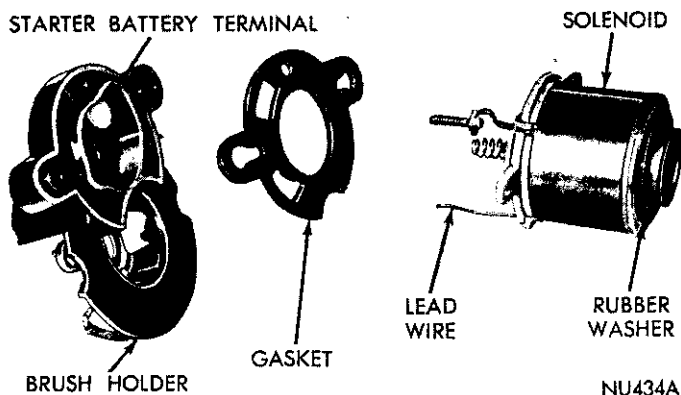

Fig. 18—Assembling Solenoid to Brush Holder Plate
(11) Position seal on brush holder plate.
(12) Enter solenoid lead wire through hole in brush holder (Fig. 18) and install solenoid stud, insulating washer, flat washer and nut.